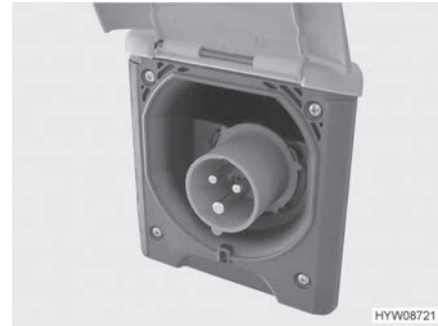

Fig. 67 230 V connection on the vehicle (CEE socket outlet)
- Open the cover of the 230 V connection on the vehicle (Fig. 67) and insert the plug connector. Ensure that the detent of the spring-mounted pivoting cover is engaged in position.